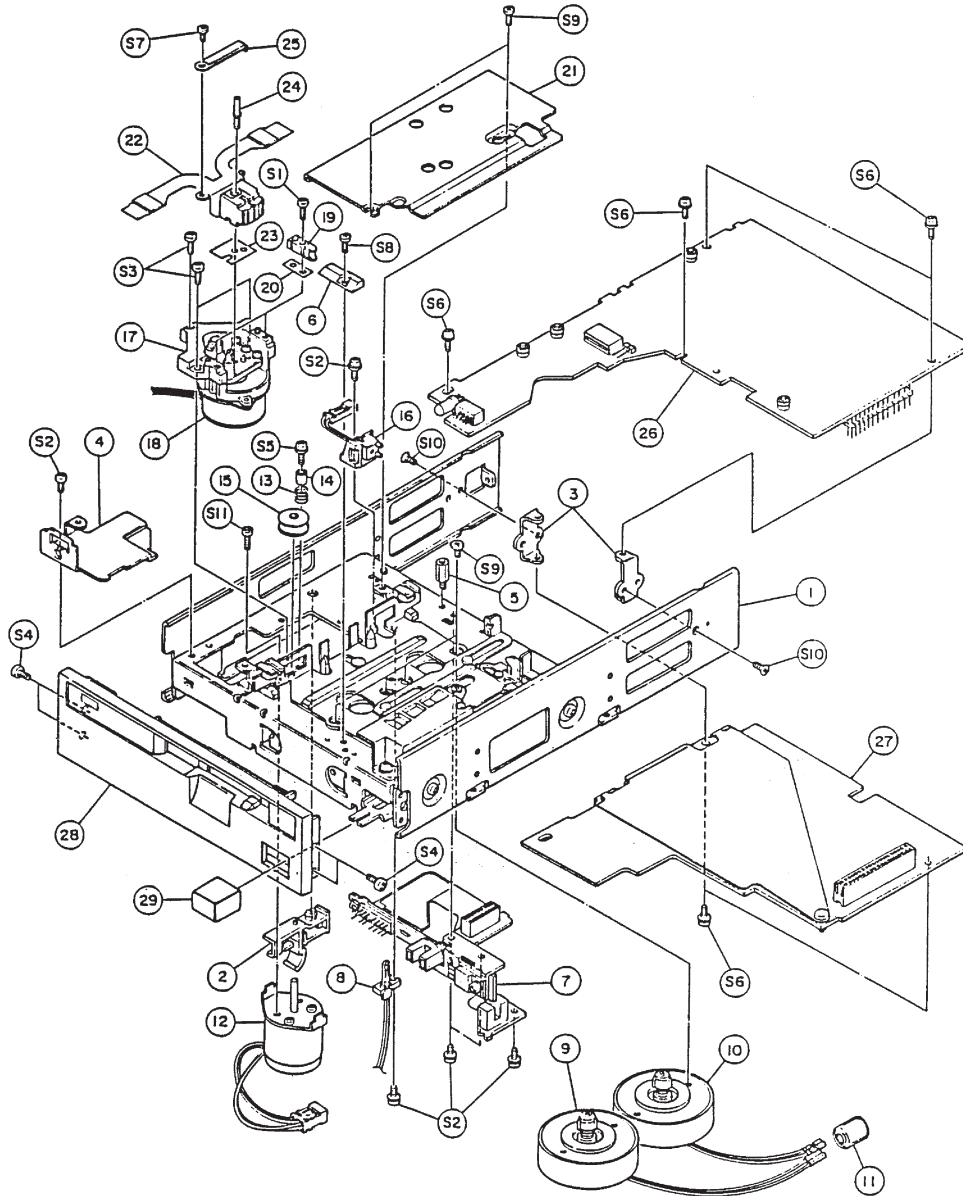

FIGURE 42-6 Exploded diagram of a Teac tape drive (Teac America, Inc.)
Now that you have an understanding of basic tape styles and drive standards, this part of the chapter will show you how tape drives are physically assembled. Figure 42-6 shows an exploded diagram for a Teac D/CAS tape drive mechanism. While the construction of most fixed-head tape drives is not incredibly complex, it is rather involved and delicate. Helical scan tape drives, however, can offer significant technical challenges because of the added heads and tape handling mechanisms.
At the core of the mechanical assembly is the drive chassis (1 in Figure 42-6), also called the transport sub-assembly. This chassis forms the foundation for all other drive components, including two PC boards. The chassis is built with four assemblies already in place (two loading base assemblies, a lever base assembly, and a loading arm assembly). These mechanical assemblies are responsible for loading and ejecting the tape. When you encounter difficulties with tape loading or unloading, you should suspect a problem in one or more of these mechanical areas. The chassis mechanics are also responsible for allowing tapes to be inserted on one side only (side A). If the tape is inserted with side B up, the mechanics will not allow the tape to seat in the drive. A front bezel/door assembly (28) and an eject button (29) give the drive its cosmetic appearance once the completed drive is mounted in its drive bay.
The electronics involved in the Teac D/CAS drive are also called out in the exploded view of Figure 42-6. There are two printed circuit boards: the drive control PC board (26) and the drive interface PC board (27). The drive control board contains all the circuitry necessary for operating the drive's physical devices such as the R/W head(s), the reel motors, the stepping motor, reading the encoder, and reading the other drive sensor elements. A drive interface board contains the high-level processing circuitry needed to communicate with a host computer and operate the drive control board.